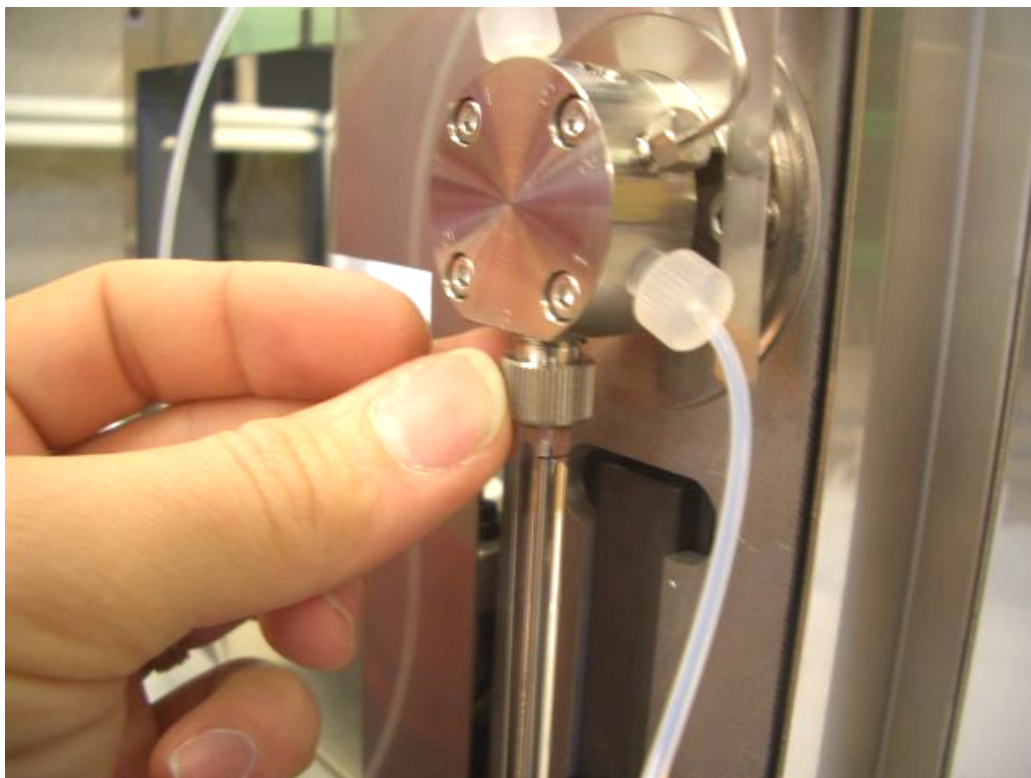

Figure 7: Top nut on the Syringe
9. Undo the nut at the top of the 100uL syringe (*Fig. 7*). To remove the syringe, slide the carriage down and pull the syringe forward to release. Try to keep the syringe vertical when removing.